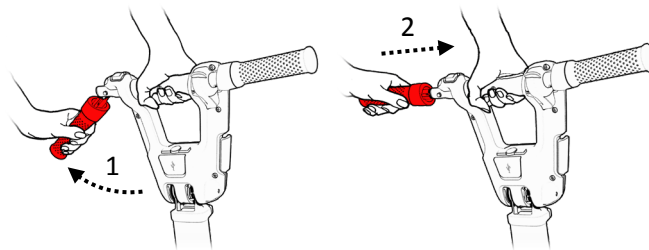

Figure 16
12. Open both sides of the handlebar (see Figure 16).